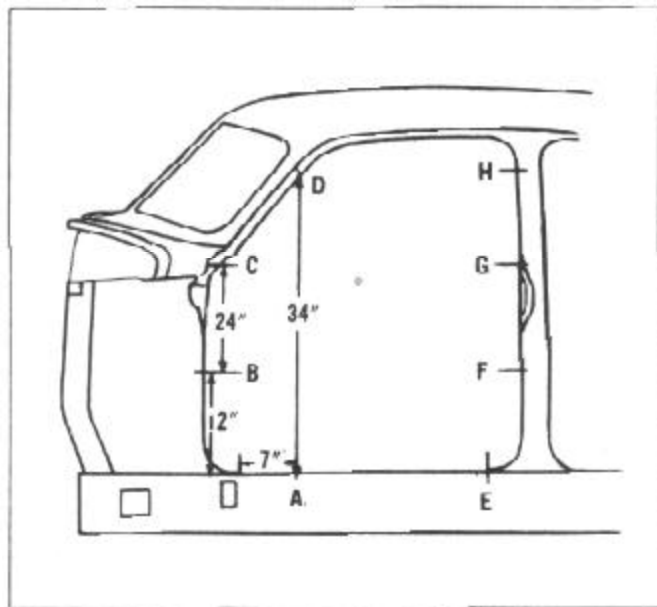

FIGURE 116
Check the front door openings first, measure back 7" from the front hinge pillar (A), Figure 116, on the underbody panel and mark this point as indicated.
Measure 12", 24" and 34" upwards on the lock pillar starting from the bottom of the pillar where it is welded to the underbody sill (E), Figure 116.